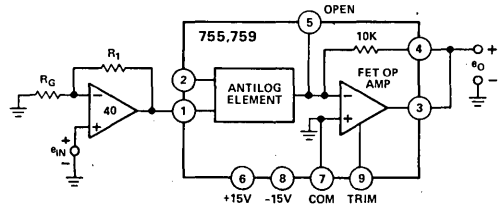

Figure 6. Method for Adjusting  $K < 2/3V$
**Scale Factor (K) Adjustment** – The scale factor may be adjusted for all values of  $K$  greater than 2/3V by the techniques described in the log section. If a value of  $K$  less than 2/3V is desired for a given application, an external op amp would be required as shown in Figure 6. The ratio of the two resistors is approximately: